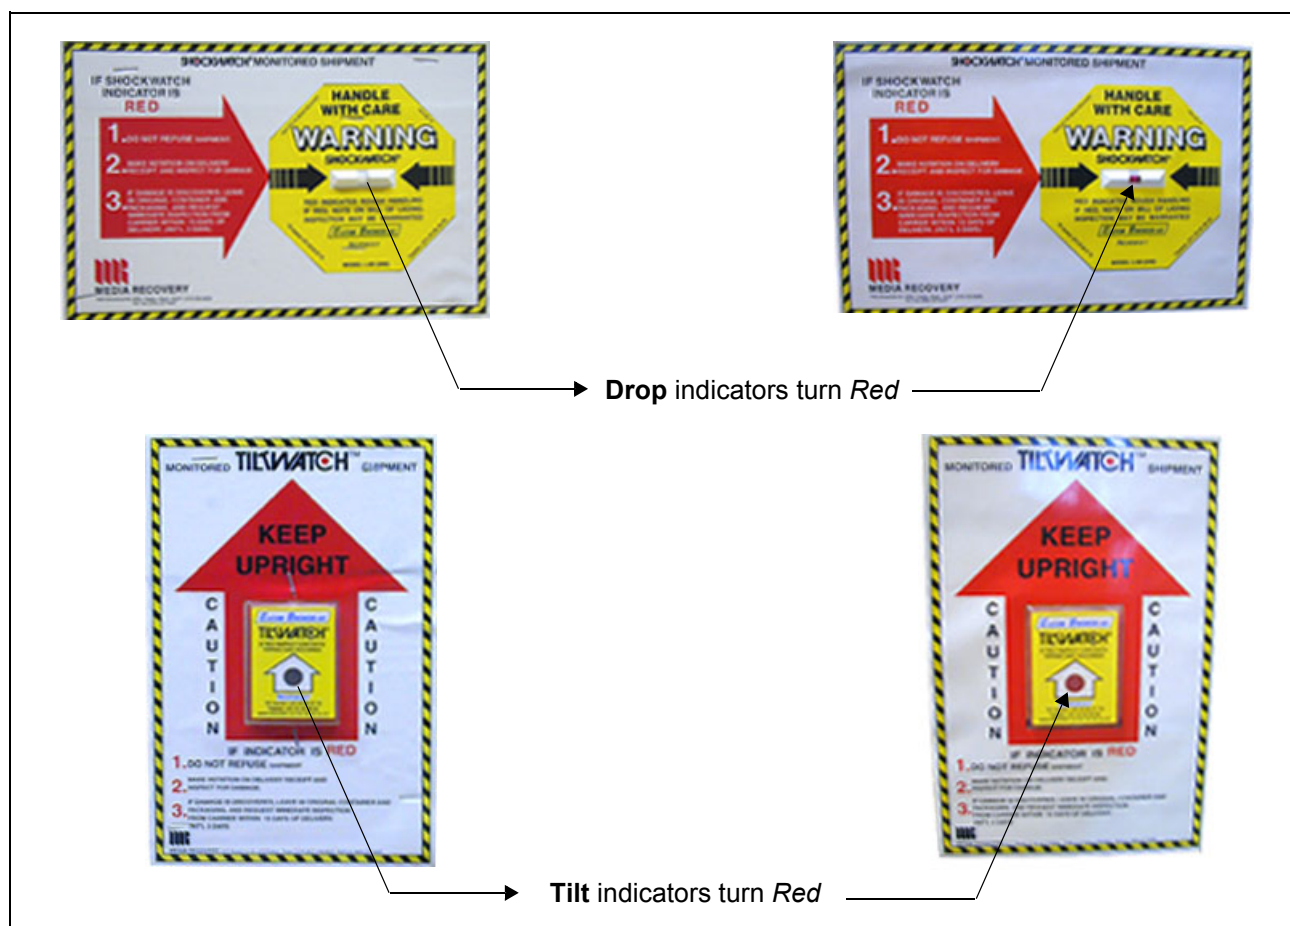

Figure 3-1 Drop and Tilt Indicators
NOTE: For information on shipping carton labels, refer to Figure 3-1 on page 3-4 and Figure 3-5 on page 3-7.
- Inspect the *Drop* and *Tilt* indicators (on the Shock-watch and Tilt-watch labels, respectively) for evidence of accidental shock or tilting during transit (damage incident) - refer to Figure 3-1 below.